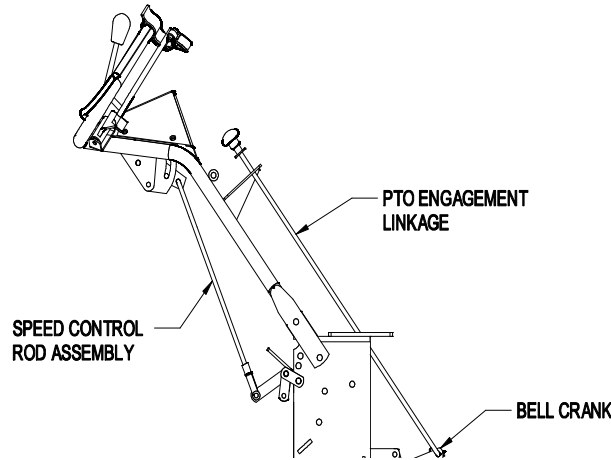

FIGURE 3
- 3.12 Install the speed control rod assembly (linkage with the yoke installed on one end) into the end of the speed control lever located underneath the center of the console. Insert the end of the linkage (opposite the yoke) into the end of the speed control lever from the right hand side and fasten with a hairpin from the bolt bag (See Figure 3).